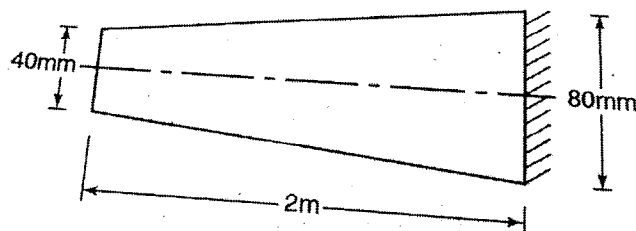

Fig. 1
17. The uniformly tapering shaft as shown in the Fig.1 below is subjected to a torque of 2kN-m at its free end. Find the angle of twist and maximum shear stress in the shaft if $G= 80$ kN/mm². What is the percentage error if is calculated as a shaft of average diameter.